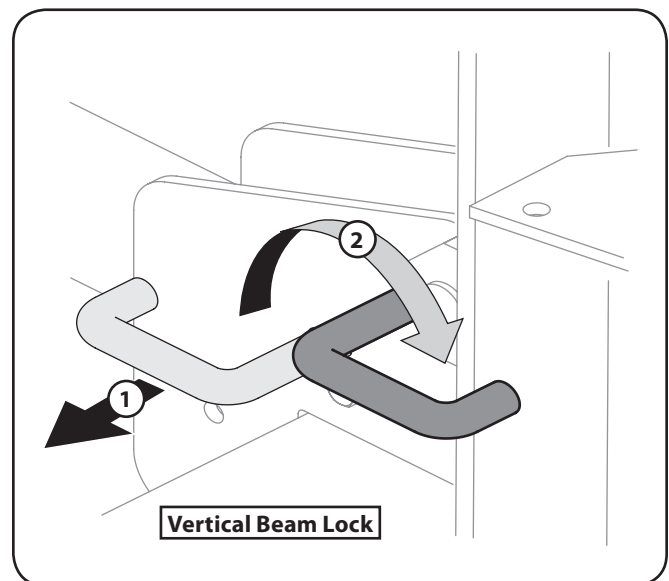

Figure 5-1
- b. To lock the beam in the vertical position, pull out on the vertical beam lock and rotate it to secure the beam. See Fig. 5-1.
- a. Pull the vertical beam lock out and rotate it down. See Fig. 5-1. Pivot the beam to the horizontal position.